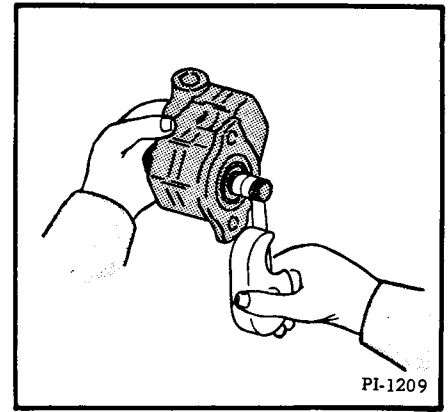

Fig. 26 Wrapping Shaft Spline
(4) Neatly wrap the shaft with one layer of transparent tape to prevent the shaft splines or keyways from damaging the new seal when it is being installed. Start wrapping at the seal seat, overlapping each turn about 1/16" over the last, progressing outward (Fig. 26).
(5) The seal should be lubricated with grease to make it slide easily into place.
(6) With the pilot plate in place, reinstall and tighten the pilot plate mounting screws.